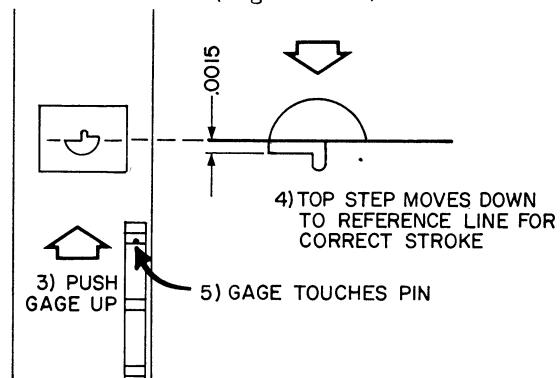

Figure 4-10. CLAW PULL DOWN STROKE
- Lift or push Gauge up. Projected Target will move down. Upper Target step must touch reference line drawn in Step (f) for correct stroke. (Figure 4-10).
- j. Lift or push Gauge up. Projected Target will move down. Upper Target step must touch reference line drawn in Step (f) for correct stroke. (Figure 4-10).